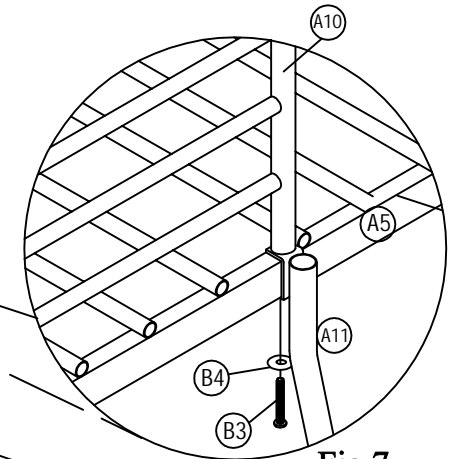

Fig.7
Step 7: Assemble the front guardrail A10 to front upper rail A5 & leg A1 using bolts B3 with washers B4, then fasten bolts B3 with washer at this point. Refer Fig.7. Now please tighten all the bolts at this point.